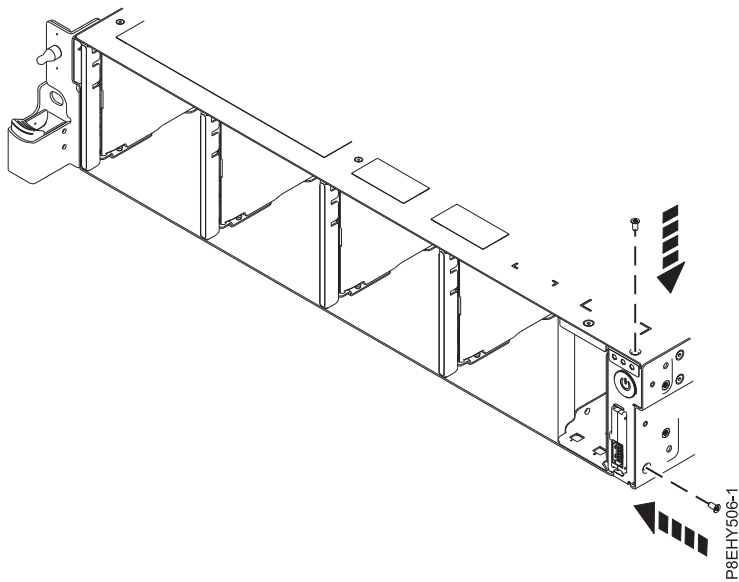

Figure 26. Replace the top and side screws
5. Replace the top and side screws for the power switch See Figure 26.